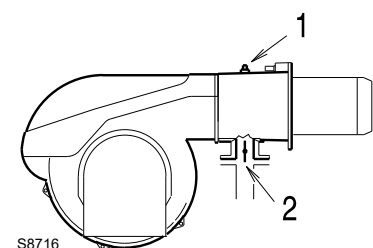

Fig. 19
Tab. K allows to identify the power delivered by the burner based on the pressure measured at the test point 1)(Fig. 19).
Gas pressure measured at the test point 1)(Fig. 19), with:
- subtract the combustion chamber pressure from the gas pressure measured at test point 1)(Fig. 19).
Gas pressure at test point 1)(Fig. 19) = 16.3 mbar